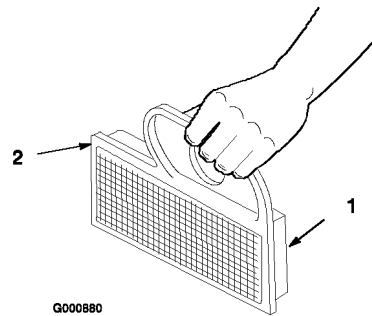

Figure 29
- A. Lightly tap the element on a flat surface to remove dust and dirt (Figure 29).